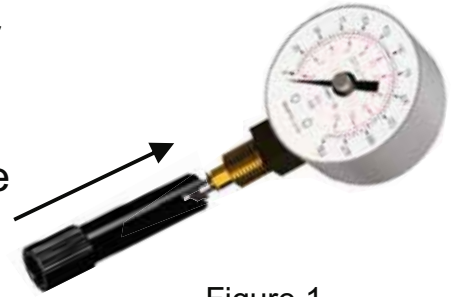

Figure 1
- 3 Place the needle protector over the needle with the bottom end upwards towards the gauge as shown (see Figure 1) and push the needle to ensure a tight fit.